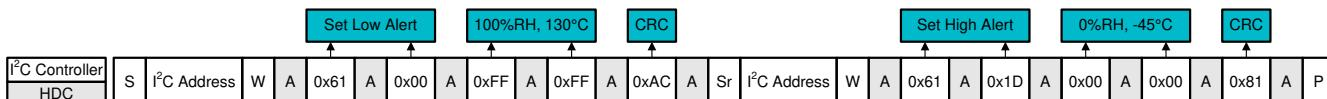

**Figure 7-18. I2C Command Sequence: Example Programming of Set High Alert to 90% RH, 65°C**
- a. Figure 7-18 illustrates the appropriate command to send to the HDC302x.